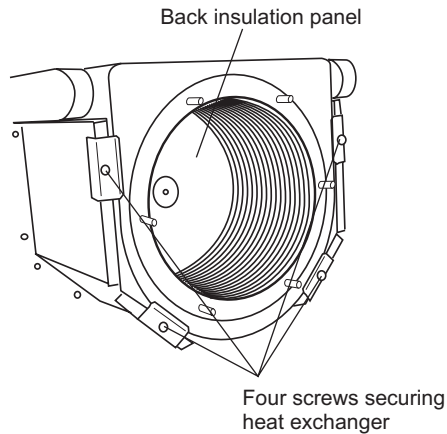

Fig. 8.3
8.16 PRIMARY HEAT EXCHANGER - See Fig. 8.3
Back insulation - see Fig. 8.3